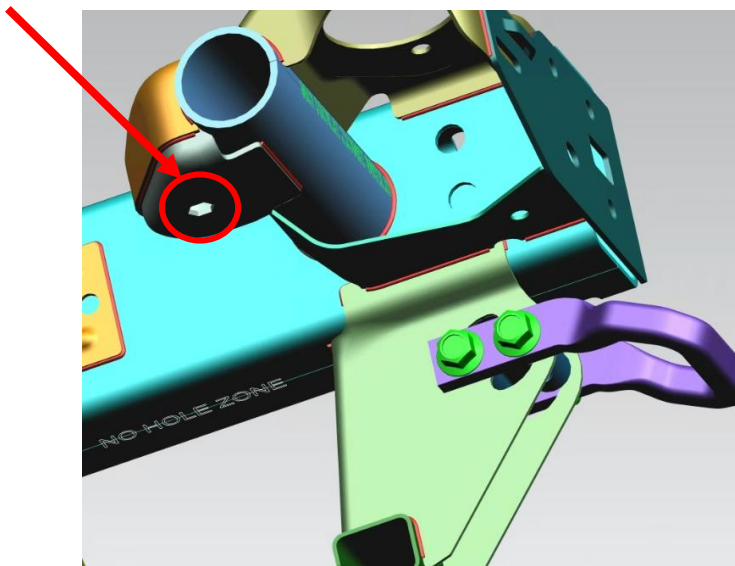

Figure 8 – Passenger Side Chassis Tube
- a. Using RivNut tool, install [2] M10 RivNuts (AEV93030AA) provided near Chassis Tube (1 per side) – Fig. 8 & 9